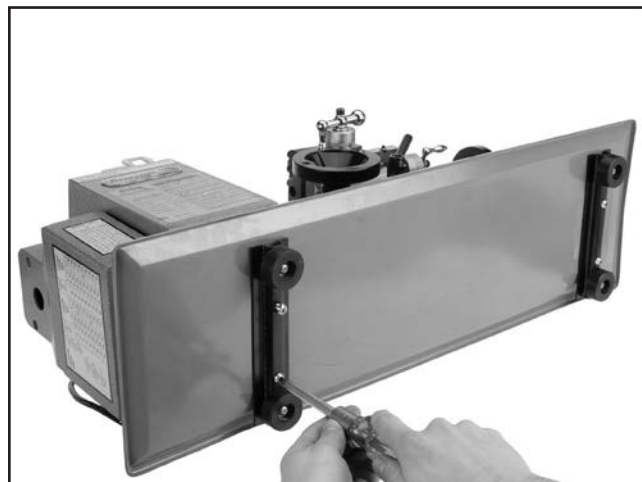

Figure 8. Installing the feet.
2. Attach the two brackets with the screws you removed in **Step 1** (see **Figure 8**).